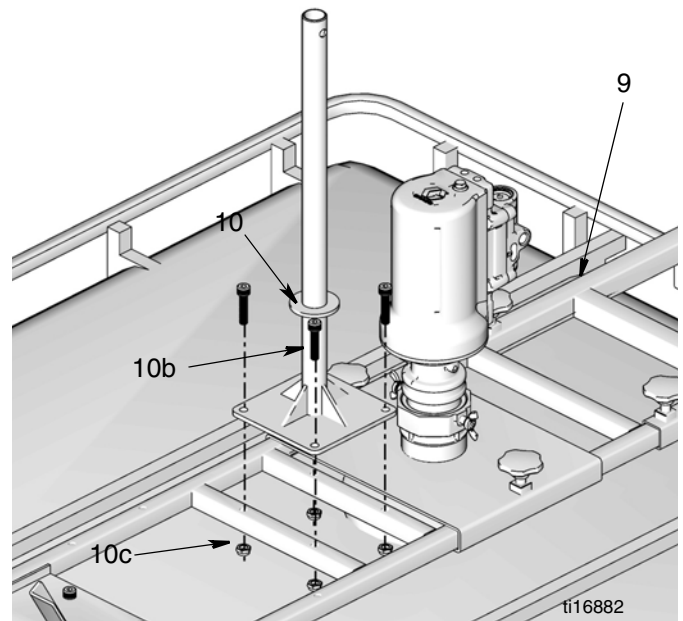

FIG. 16
2. Install the reel bracket (10) to the top bracket (9). Secure in place using the 4 screws (10b) and nuts (10c) (FIG. 16).
- Install dispense device (12) to end of hose (FIG. 16). Tighten fitting securely.